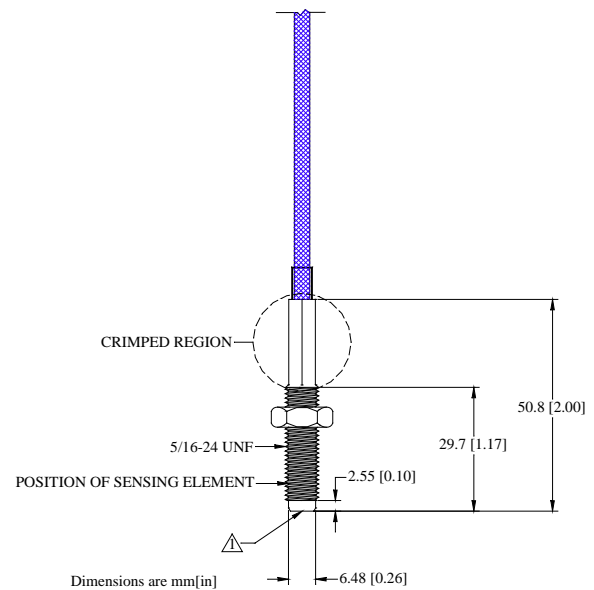
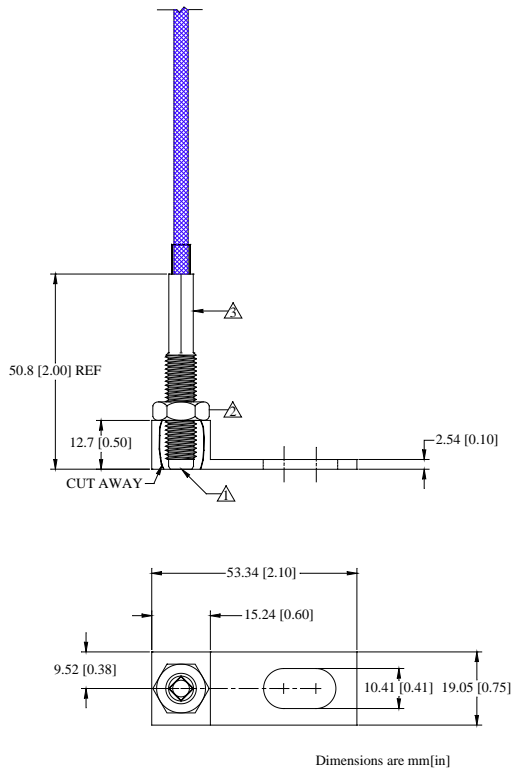

Figure 1: Thermocouple Case Dimensions
Figure 2: Thermocouple and Optional Right Angle Mounting Adaptor
1. Install the thermocouple shown in Figure 1 with the tip $\triangle 1$ in contact with the surface to be measured. If you use a mounting adapter such as that shown in Figure 2, adjust adapter and threaded case to establish contact with the surface to be measured at point $\triangle 1$.
2. Tighten the thermocouple jam nut $\triangle 2$ from 11.3 to 16.9 N*m (100 to 150 in-lb). The jam nut prevents the thermocouple loosening whether installed as shown in Figure 1 or as shown using the adapter in Figure 2.
1. Do not apply more than 5.6 N*m (50 in-lb) torque to the crimped region $\triangle 3$ on the thermocouple shown in figure 1. Damage to the thermocouple may result.